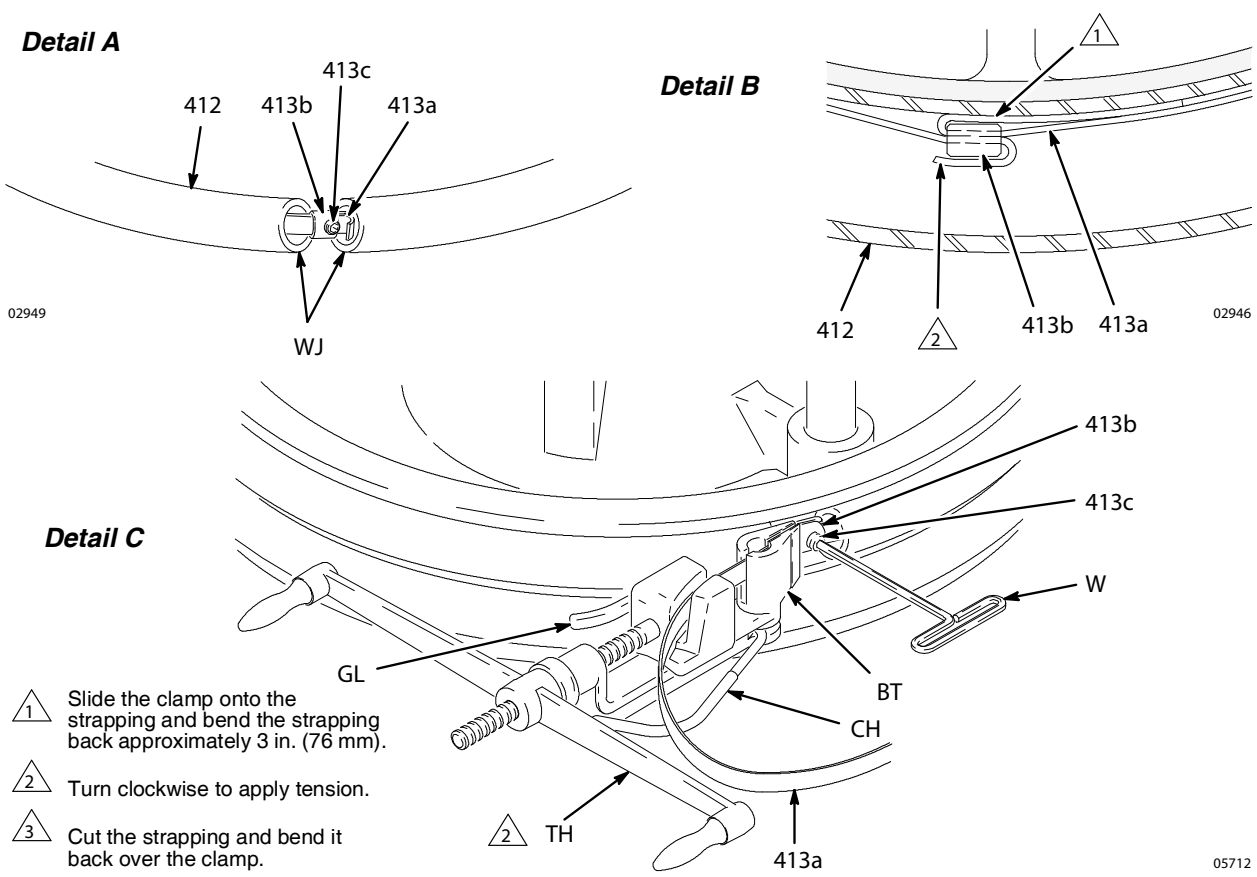

FIG. 27
3. Separate the wiper joint (WJ) and bend back the strapping (413a) covering the clamp setscrew (413c). See Detail A of FIG. 27. Loosen the setscrew, pull the end of the strapping through the clamp (413b) and remove the wiper.
4. Slide the strapping (413a) through the new wiper (412). Slide the clamp (413b) onto the new strapping and bend the strapping back approximately 3 in. (76 mm). Insert the strapping through the clamp a second time. See Detail B of FIG. 27.
5. Install the wipers on the Follower Plate (D). Position the wipers so that the wiper joints (WJ) are 180° apart.
**NOTE:** You will need the special banding tool (BT) shown in Detail C of FIG. 27 to tighten the strapping. Order Part No. 168092 Banding Tool.
6. Grip the strapping (413a) with the bonding tool (BT) as shown. With your thumb on the gripper lever (GL), turn the tool handle (TH) clockwise to apply tension.
**NOTE:** Be careful not to pull the cutting handle (CH) until you are ready to cut the strapping in step 8.
8. Tighten the setscrew with a wrench (W). Pull the cutting handle (CH) to cut. Remove the bonding tool (BT). Bend the strapping back over the clamp (413b).
9. Pound the wiper all the way around with a rubber mallet until the wiper joints (WJ) are butted tightly together.